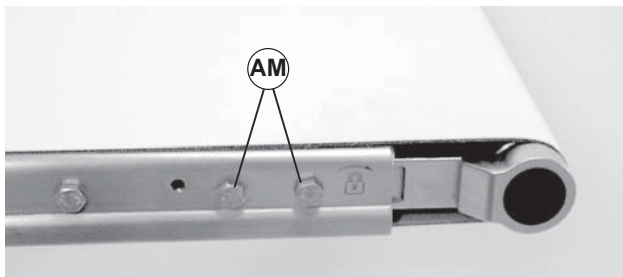
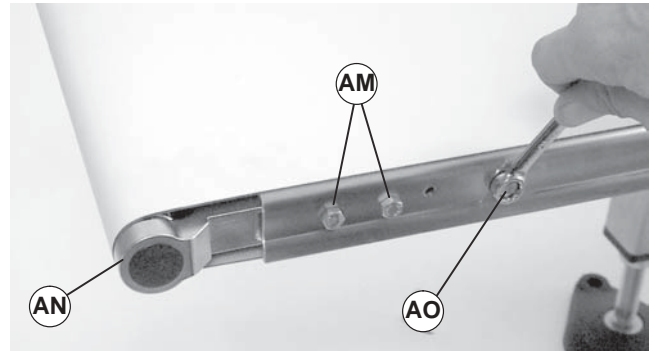

Figure 18
Figure 19
4. Loosen four M6 hex head cap screws (Figure 18, item AM) and (Figure 19, item AM).
5. Retract idler spindle assembly (Figure 19, item AN) by pushing in on it or by turning M6 hex head pinion screw (AO) clockwise.
4. Loosen four M6 x 20 mm hex head cap screws (Figure 18, item AM) and (Figure 19, item AM).
5. Retract idler spindle assembly (Figure 19, item AN) by pushing in on it or by turning M6 x 25 mm hex head pinion screw (Figure 19, item AO) and (Figure 20, item AO) clockwise.